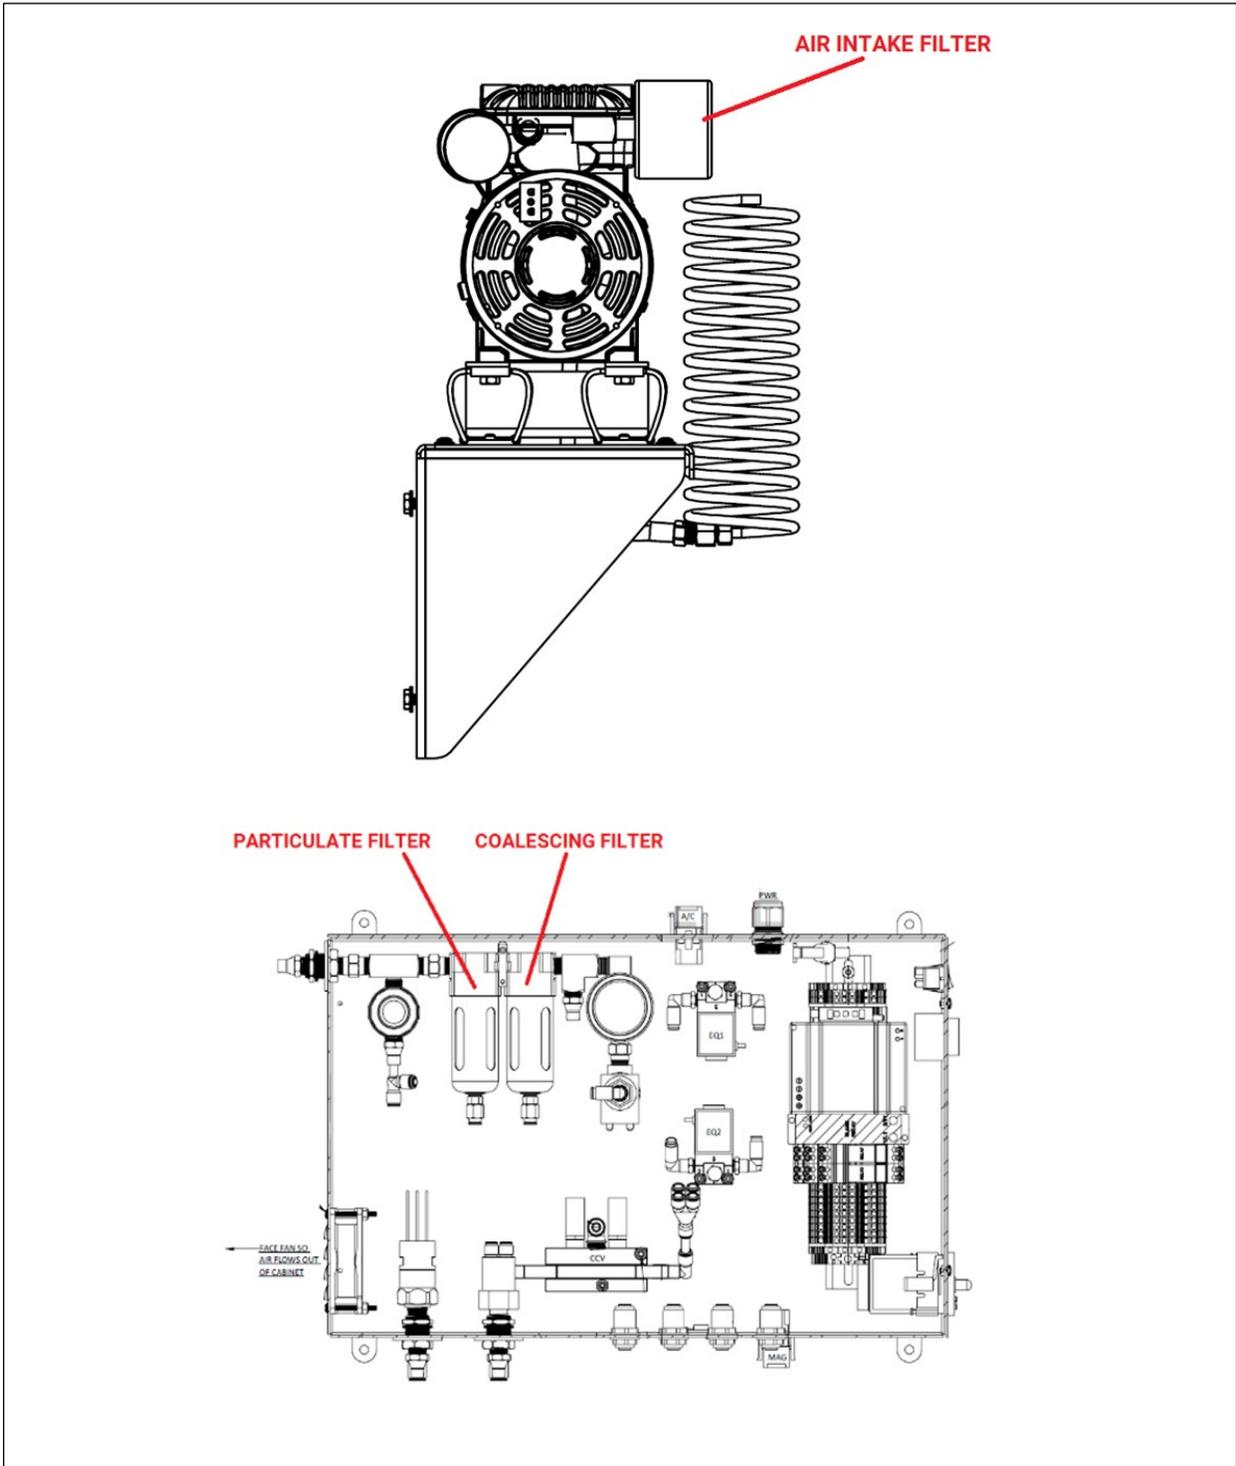

Fig. 6 - Nitrogen Generator Filter Locations
2. Locate the air filters on the bracket in the top-left of the cabinet (see Figure 6).